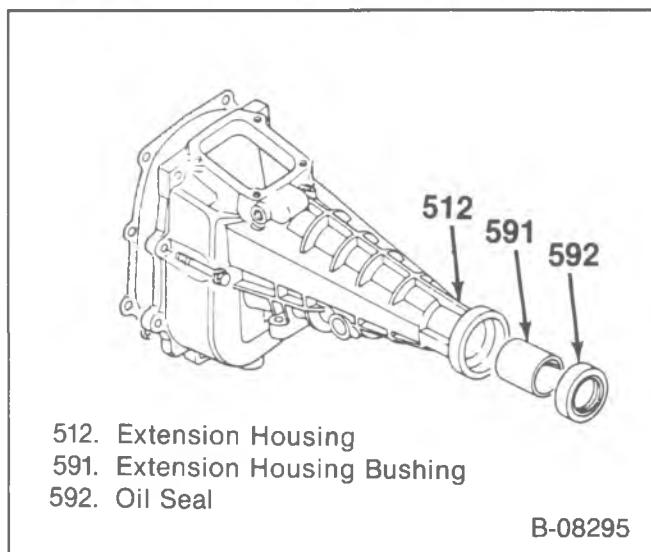

Figure 98—Extension Housing and the Oil Seal
EXTENSION HOUSING**Remove or Disconnect (Figure 98)**
1. Seal (592).
3. Bushing (591) if it is worn or damaged.
**Inspect (Figure 98)**
**Install or Connect (Figure 98)****Tools Required:**